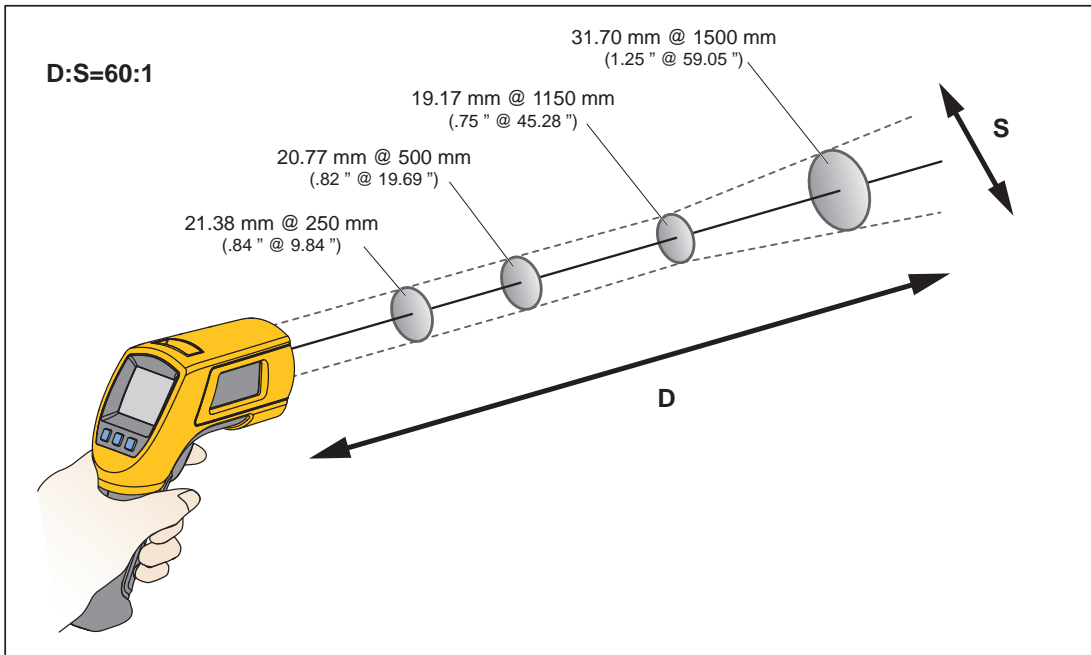

Figure 5. Distance and Spot Size
As the distance (D) from the object being measured increases, the spot size (S) of the area measured by the Product becomes larger. The relationship between distance and spot size (D:S) for each Product is shown in Figure 5. The spot sizes indicate 90 % encircled energy.